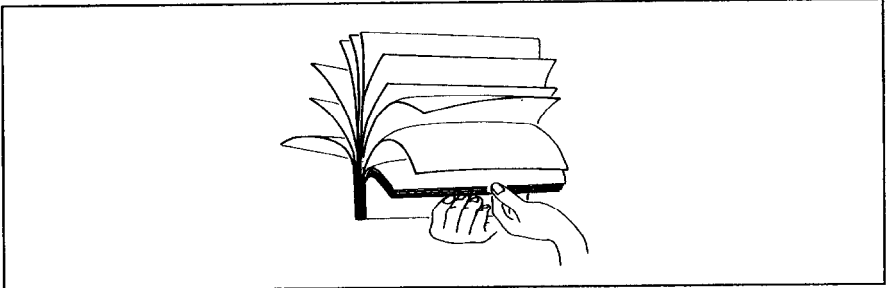

Figure 2-2. Fan the paper before loading.
3. Fan the paper before loading as shown in Figure 2-2, and line up the edges of the paper evenly.